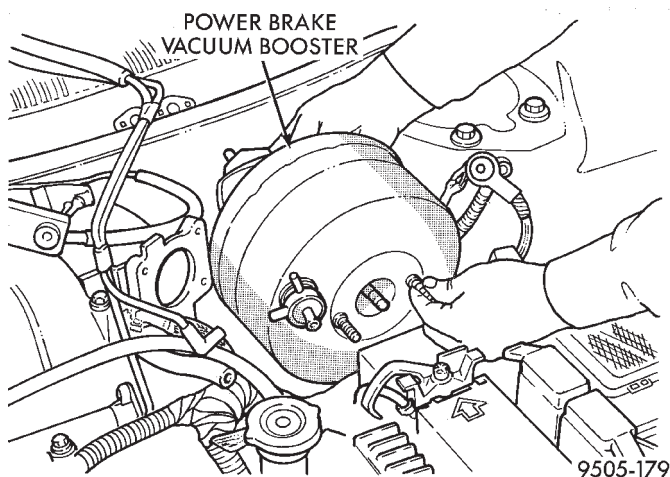

**Fig. 115 Power Brake Vacuum Booster Removal**
(19) Slide the vacuum booster straight forward until mounting studs clear dash panel. Then lift the vacuum booster straight up to remove it from the vehicle (Fig. 115).